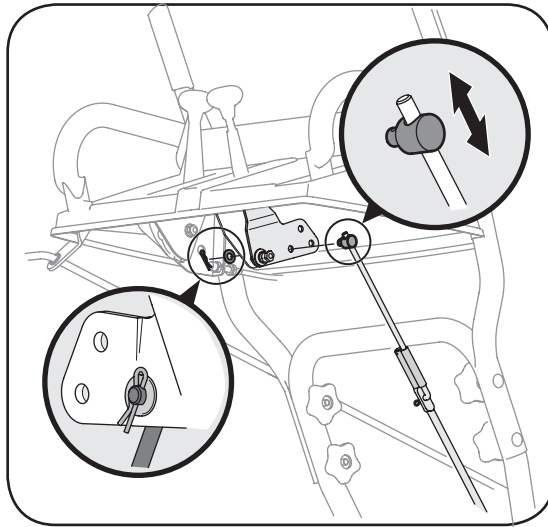

Figure 5-1
1. Looking underneath the handle panel, note which of the three holes in the shift lever the ferrule is inserted into. Also note the direction of insertion. Remove the internal cotter pin and flat washer from the ferrule and withdraw the ferrule from the shift lever. See Figure 5-1.
2. Place shift lever in sixth (6) position or fastest forward speed.
4. As necessary, rotate (thread) the ferrule up or down the shift rod until the ferrule lines up with the hole from which it was earlier removed. See Figure 5-1.